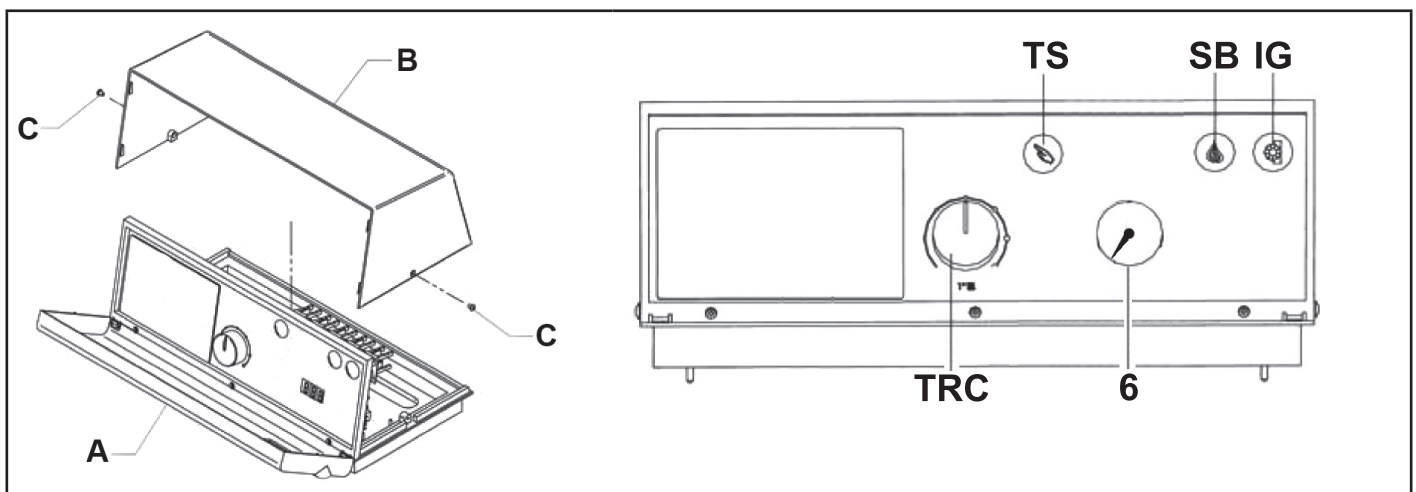

fig. 1
The ground wire in the power cables and cables connecting to the boiler must be several mm longer than the other wires in the same cable. For connections between the burner, electrical panel and electrical power supply, the use of H07 RN-F cables is recommended for visible connections. For other types of systems, or for special environmental situations, consult current standards. The composition and diameter of the wires is calculated based on the power absorbed by the burner. To access the instruments, rotate the front panel (A). To access the connection terminals ("fig. 1") and unwind the capillary tubes from the thermostats and thermometer, remove the top panel (B) after first removing the 2 side screws (C). The control thermostats (TRC) can be set by the user, using the knob at the front. The safety thermostat has a fixed setting and manual reset.